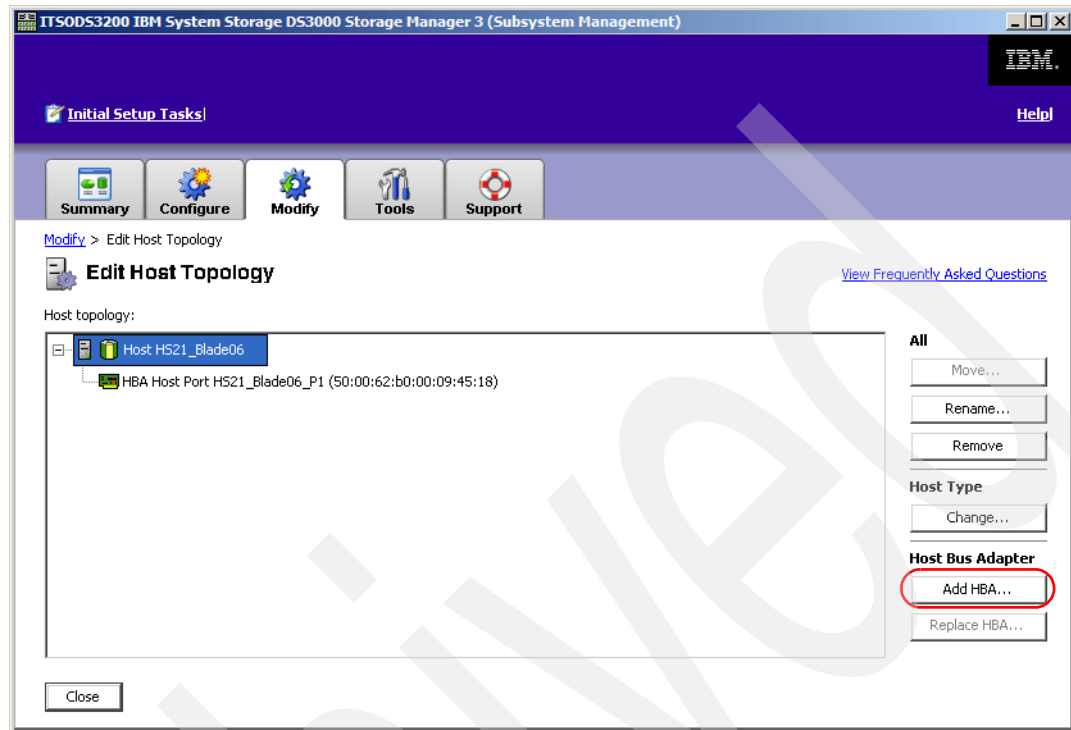

Figure 20-43 Add HBA
4. Select the host **HS21\_Blade06** and click **Add HBA...**, as shown in Figure 20-43 on page 475.